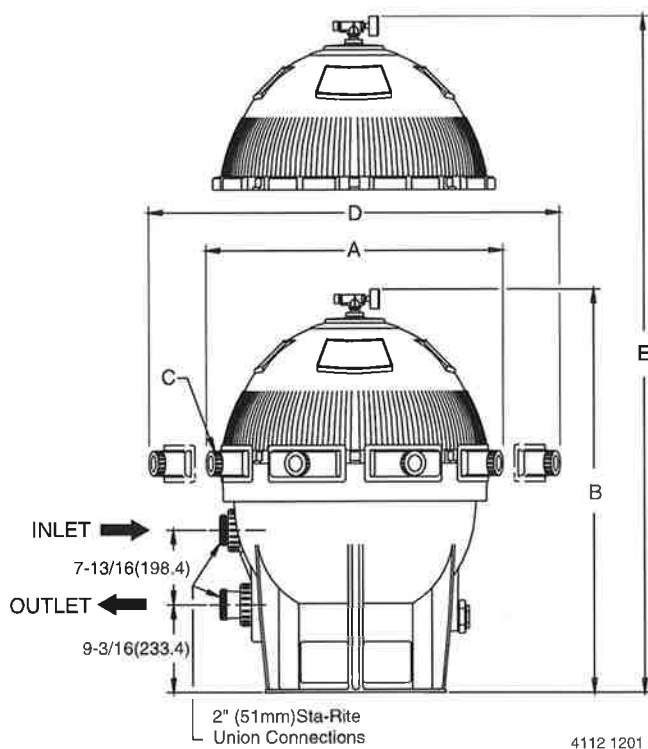

FIGURE 1 – Dimensions in inches (mm)
- Provide space and lighting for easy access for routine maintenance. (See Figure 1 and Table II, Page 6, for space requirements.)
- For installation allowing backwashing, install Sta-Rite Two Position Slide Valve or Multiport Selector Valve with filter. See Table I. If you intend to clean your filter according to "Module Cleaning Procedure", Page 10, no slide or multi-port valve is required. See Figures 1 and 2, Page 6, for correct water flow when connecting pipe.